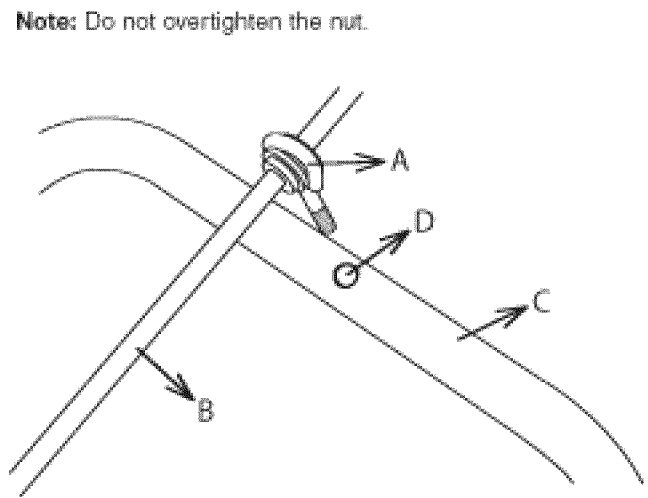

Figure 16
- Remove the washer and nut from the eye bolt with rubber grommet found on the upper chute crank. Position the chute crank so that the eye bolt with rubber grommet inserts into the center hole of the middle frame. Secure with washer and nut (Figs. 16 and 17).